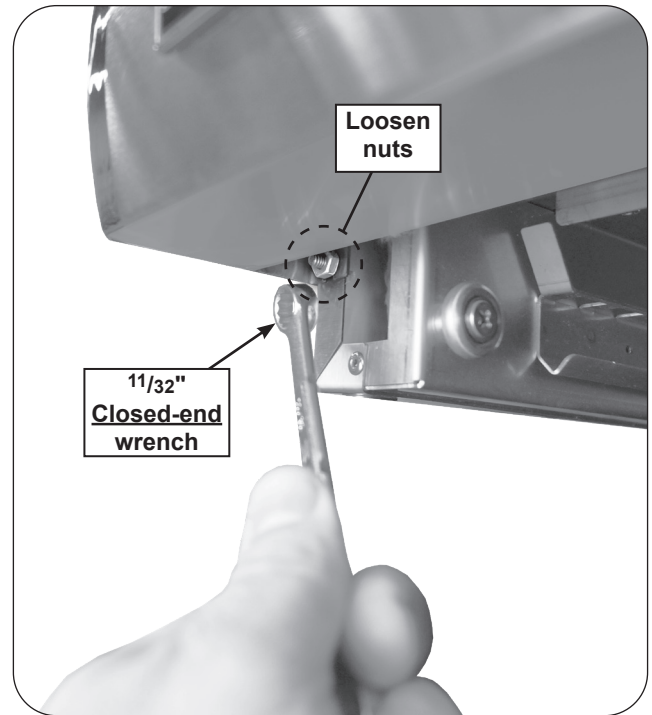

Fig. 35-1 Remove control panel
3. Loosen the nuts underneath the left and right sides of the control panel with a  $11/32$ " closed-end wrench (see Fig. 35-1), then lift the panel until it is freed from the screws. Carefully rest the control panel by the internal chains.